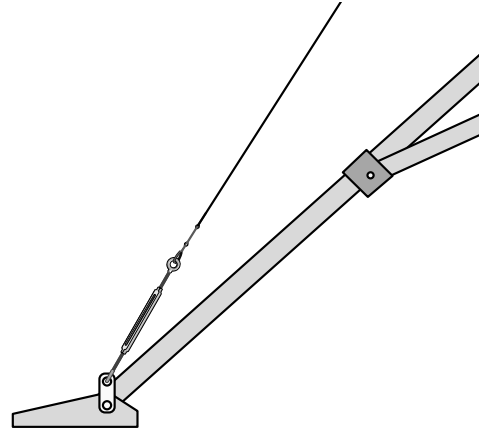

FIGURE 2-2. Extending the Tripod Legs
3. Using a tape measure and a felt-tipped pen, mark the tripod legs to indicate how far they should extend. From the end of the 3/4" pipe that attaches to the foot (Figure 2-2), measure up 23" on the CM10, or 26" on the CM6, and mark each leg with a felt tip pen.
4. Each leg has a slide collar with a single bolt for loosening or tightening the collar (Figure 2-2). Loosen the bolt on each collar with a 1/2" wrench.